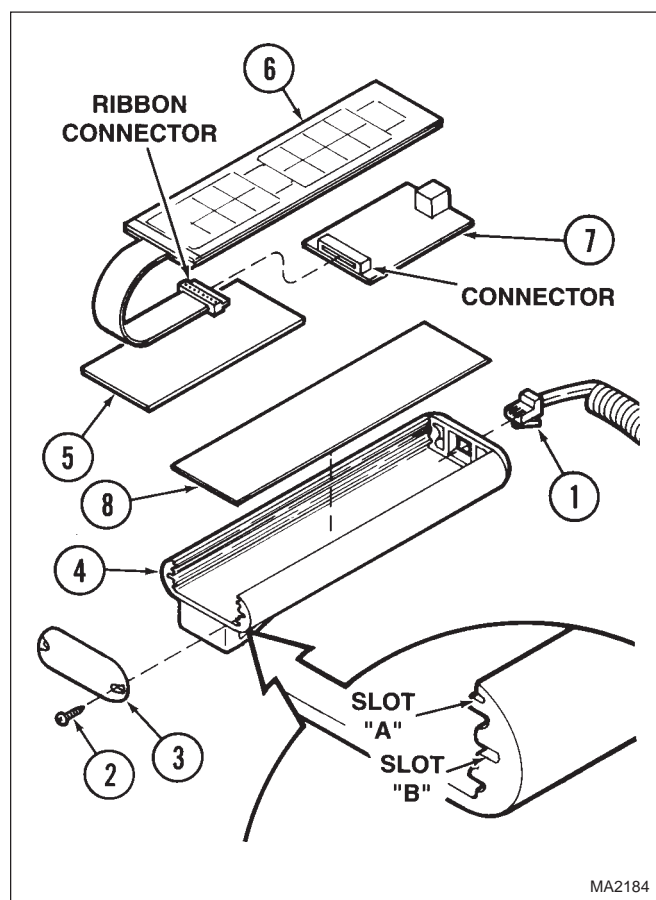

Figure 4-61. Hand Control Panel or Interface Board Removal / Installation
- (1) Disconnect coil cord (1, Figure 4-61) from pendant hand control.
- (2) Remove two screws (2) and top end cap (3) from hand control tube (4).
- (3) Remove locating plate (5) from hand control tube (4).